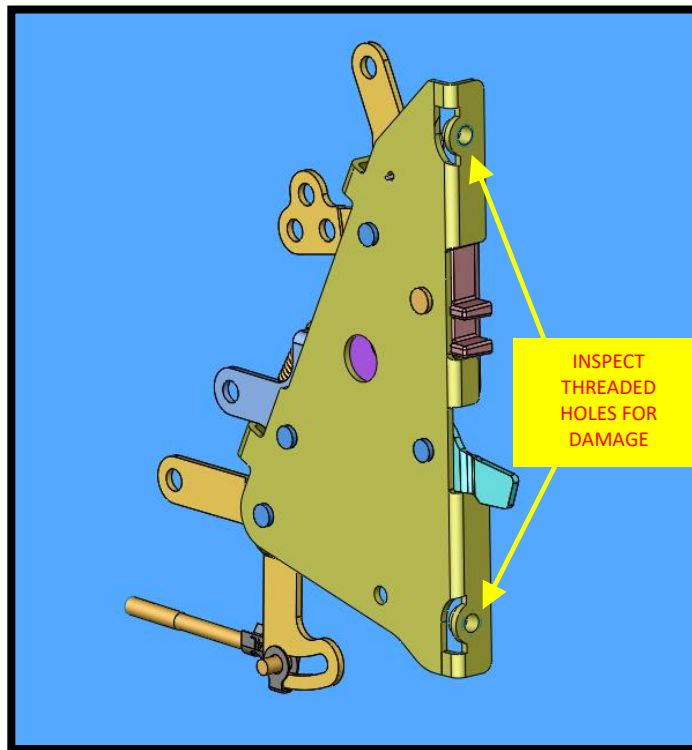

FIG. 14-1
13. Inspect threaded mounting holes in latch logic for damage. Refer to FIG. 14-1. Replace latch logic (P/N 0557-EE3-001 LH, 0534-EE3-001 RH) if thread damage is present.